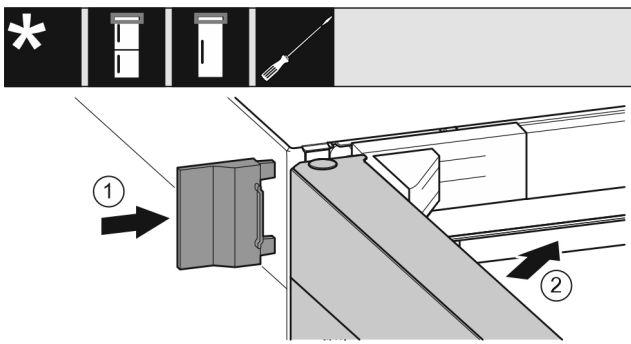

Fig. 21
- ▶ Slide on the outer cover. *Fig. 21 (1)*
- ▶ Close the upper door. *Fig. 21 (2)*